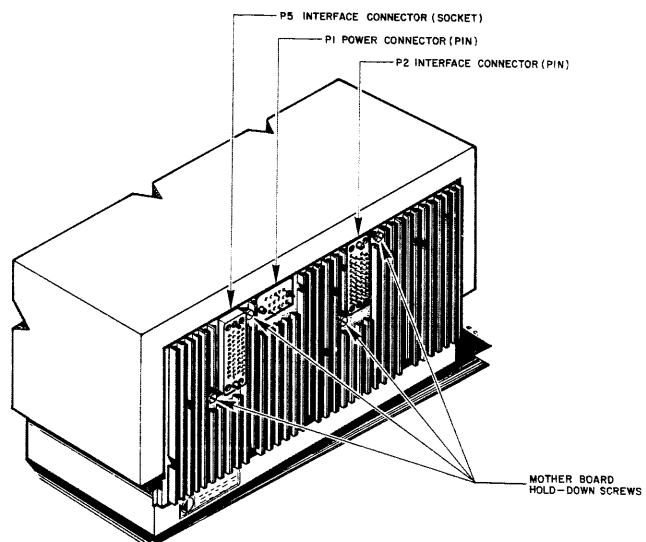

Figure 2-4 SERIES 30 REAR PANEL INTERFACE CONNECTORS
A standard Series 30 Disk Drive has two interface (Input/Output) and one power connector on its rear panel, as shown in Figure 2-4. The two interface I/O connectors are connected in parallel, pin for pin by the unit's mother PCB. Of these, connector P2 has pin (M) contacts, while connector P5 has socket (F) contacts. Table 2-1 lists the connector parts required for cable ends to mate with these rear panel I/O connectors.